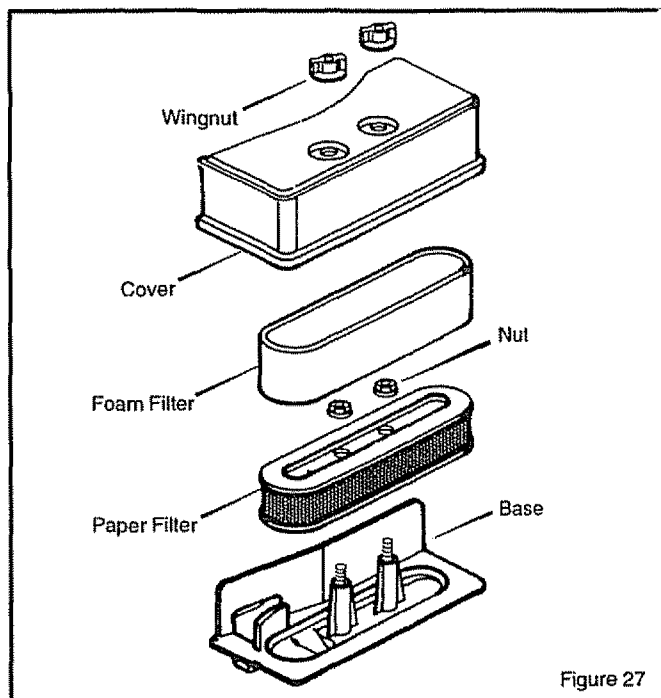

Figure 27
1. Remove the two **wingnuts** from the **cover** (Figure 27).